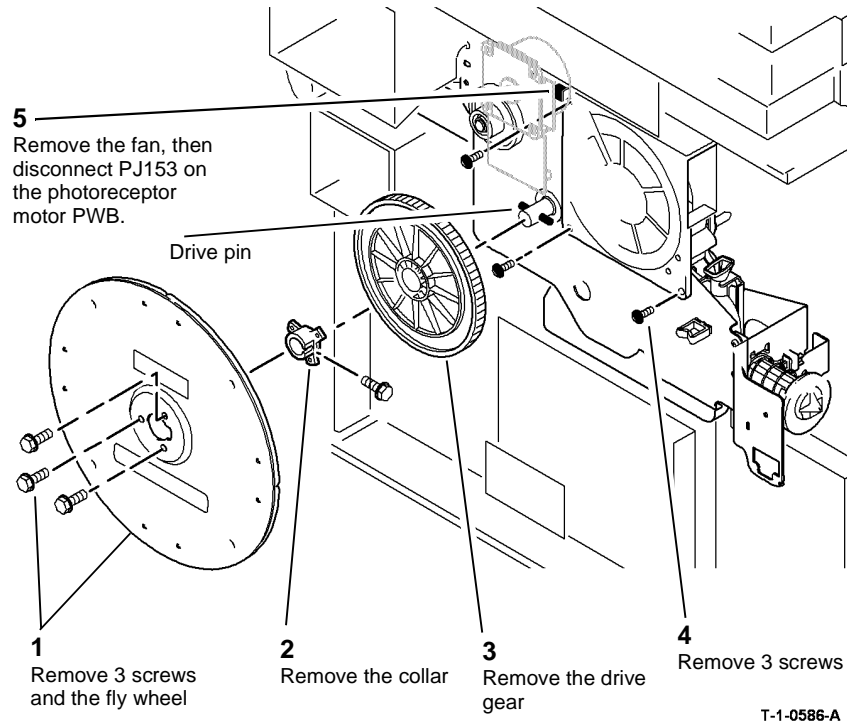

Figure 1 Remove the ozone fan
4. Remove the ozone fan, Figure 1.